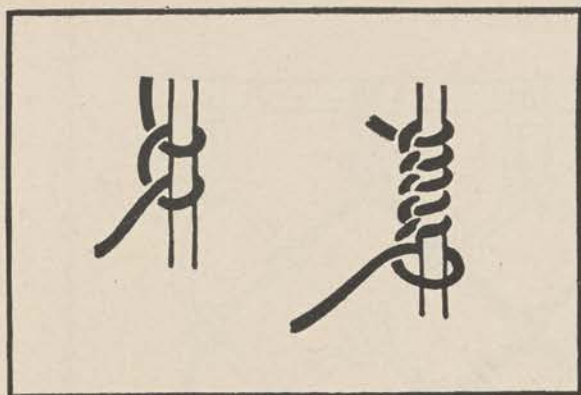

Figure 161.
b. The basic knot consists of at least two hitches or turns of the cord around its core (fig. 161). The illustration also shows how a series of half hitches can be tied with the same cord.